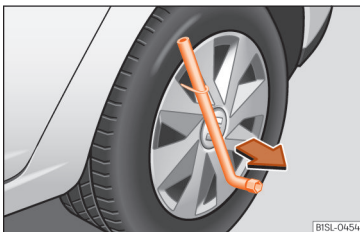

Fig. 52 Removing the full hubcap
- Insert the wheel brace onto the wire hook » **Fig. 52** and pull the hub cap in the direction shown by the arrow.